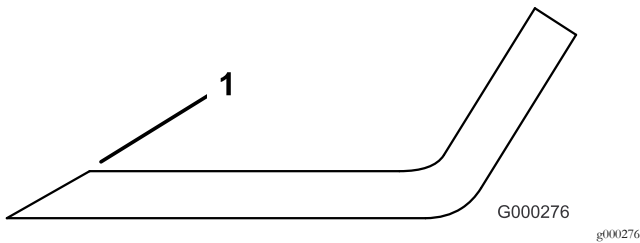

Figure 80
4. Examine the cutting edges of all the blades. Sharpen the cutting edges if they are dull or nicked. Sharpen only the top of the cutting edge and maintain the original cutting angle (Figure 80). The blade remains balanced if the same amount of metal is removed from both cutting edges.